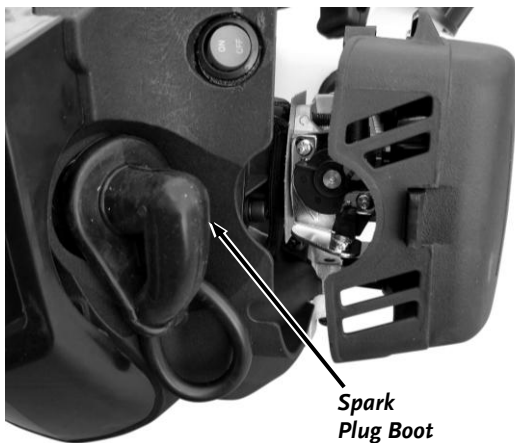

Figure 14
1. Clean area around spark plug Boot (**Figure 14**).